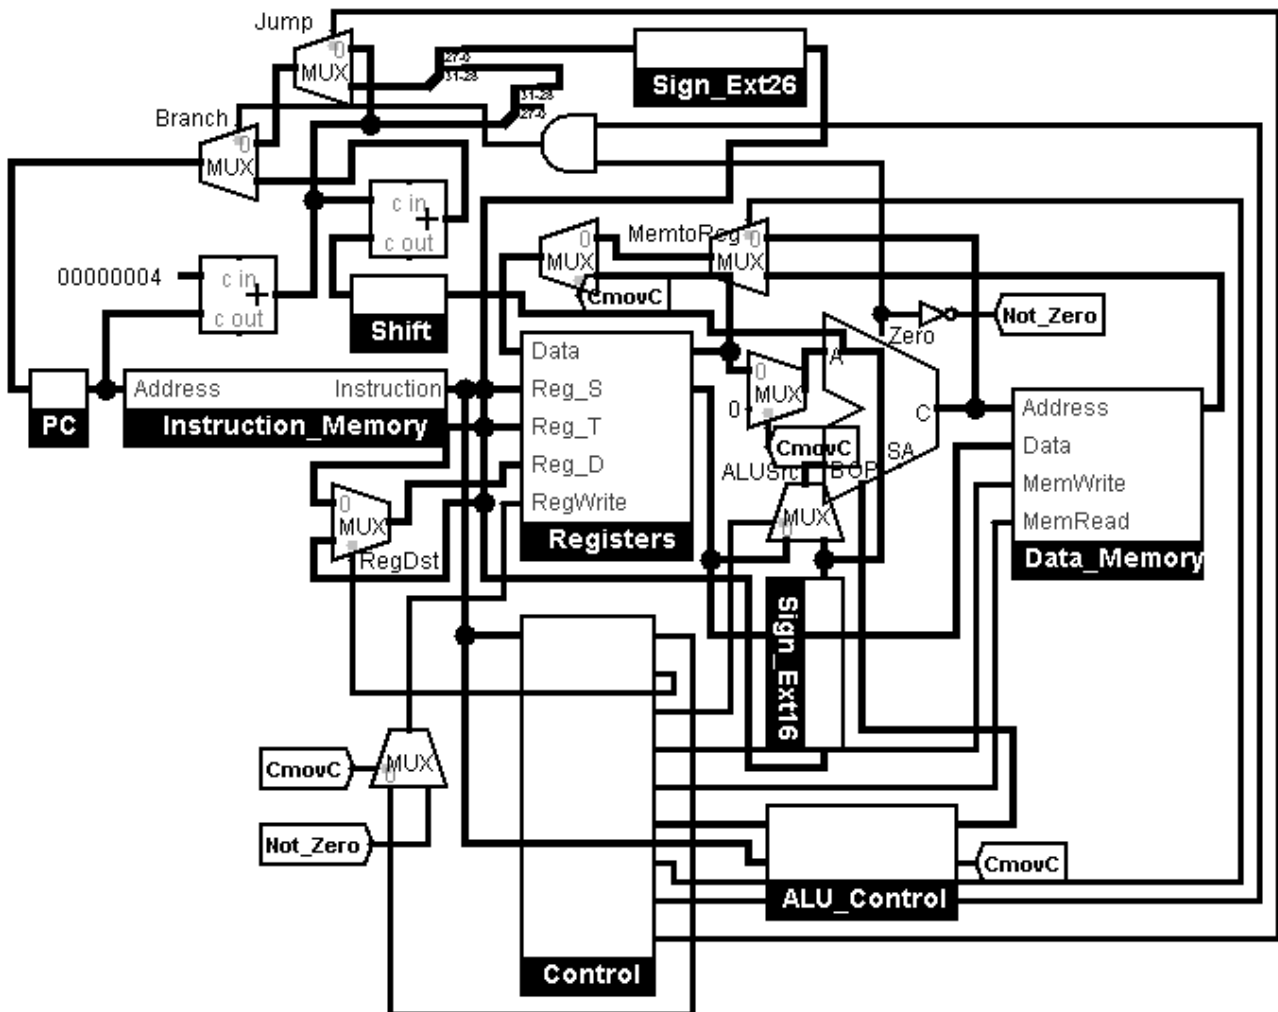

Figure 10: `cmov` Full Implementation
- using the new `CmovC` control signal as seen in Figure 10: